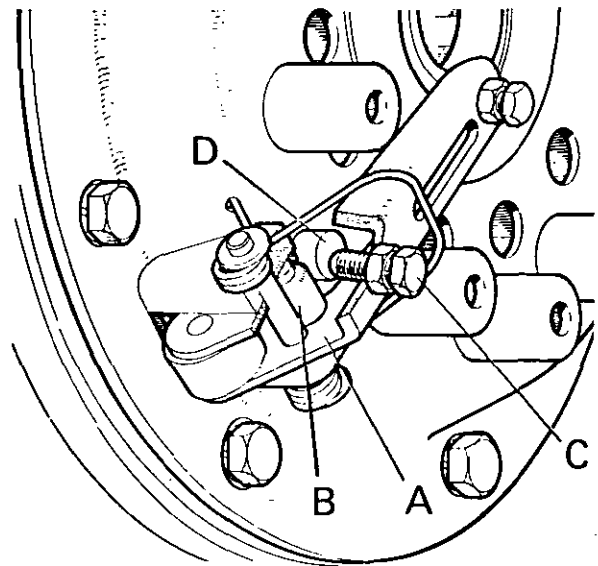

Figure 24.
3. Turn engine until a release lever is opposite cover aperture then insert cranked end of feeler gauge through open heel of lever. (Fig. 24.) Pass end of gauge over roller and pin until it goes under the adjusting screw, then release locknut and, *taking care to note the number of flats the screw is turned*, tighten screw until it just commences to hold the gauge. Firmly tighten locknut, whilst holding screw stationary, and mark lever with chalk, so that it is not adjusted again if engine is turned too far. Reset remaining screws, *not by using the gauge but by turning the screws exactly the same amount as it was necessary to turn the first screw*. This is important as it ensures the plates and facings remain parallel.